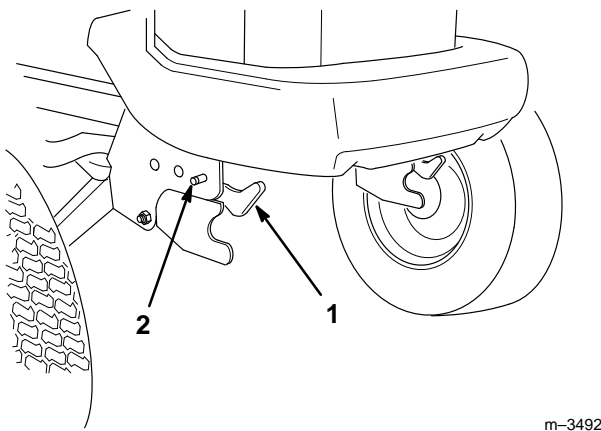

Figure 11
3. Check the front Attach-A-Matic™ latches to be sure they are open (Fig. 11).